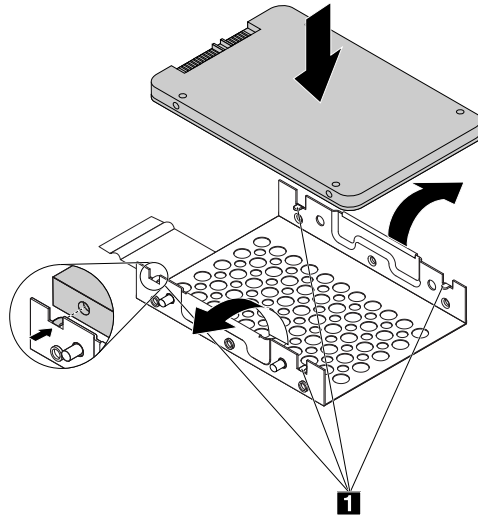

Figure 82. Installing the storage drive into the metal bracket of the converter
5. Install the new storage drive into the converter. See Figure 82 “Installing the storage drive into the metal bracket of the converter” on page 140.